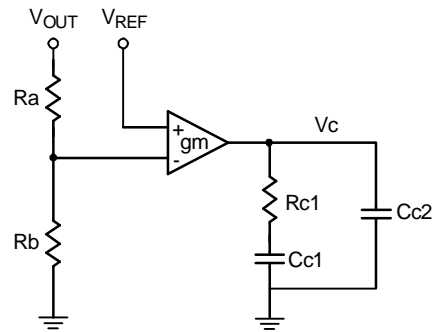
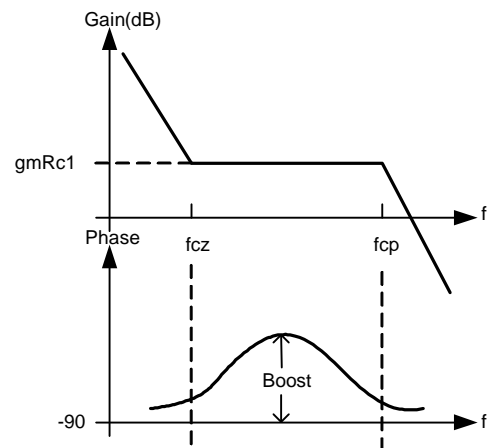

Figure 9. The typical type 2 trans-conductance error amplifier.
Figure 10. The Bode plot of type 2 trans-conductance error amplifier
So, the transfer function of compensator $C(s)$ must be designed to meet these requirements. In many applications, use an electrolytic capacitor as the output capacitor, if the zero (f_z) caused by Effective Series Resistance (ESR) of capacitor is a few kHz and smaller than 8 times f_p , the type 2 (PI) can be used to get desired compensation. Figure 9 shows the typical type 2 trans-conductance error amplifier and the Bode plot is also shown in Figure 10.